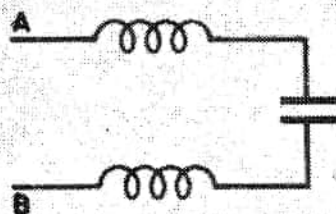

Fig. 2—Inductance and capacitance combined in a very small section of two-wire line.
Characteristic Impedance. To find out what the term means, let's take an extremely short piece of twinlead like that attached to your TV set and examine its electrical properties. First, think of the two little pieces of stranded wire as the two plates of a capacitor, between which there is a measurable capacitance. In Fig. 1 this capacitance is represented by the capacitor symbols. Each wire has inductance, too, and this is represented by the circles of arrows. When radio-frequency (RF) power is fed into this minute section of line (Fig. 2) each wire appears as a series impedance to the RF. Knowing the voltage and current of the RF, we can compute the impedance the signal sees when looking into A and B.
Fig. 3—Infinite number of sections in Fig. 2 are connected in parallel here. Voltage applied at A and B causes current flow through network. Characteristic impedance equals E/I .